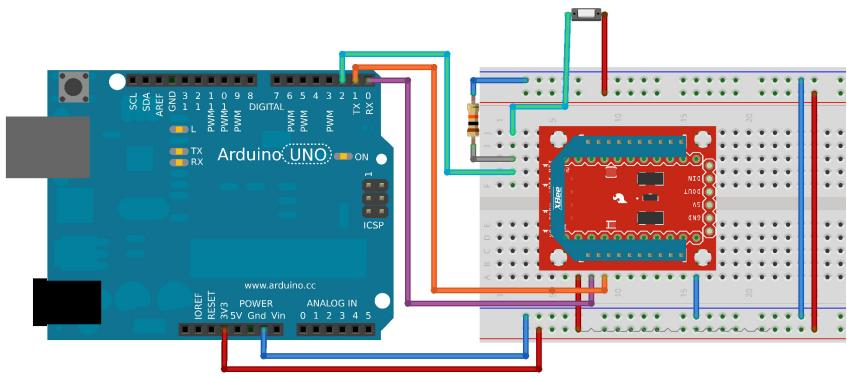
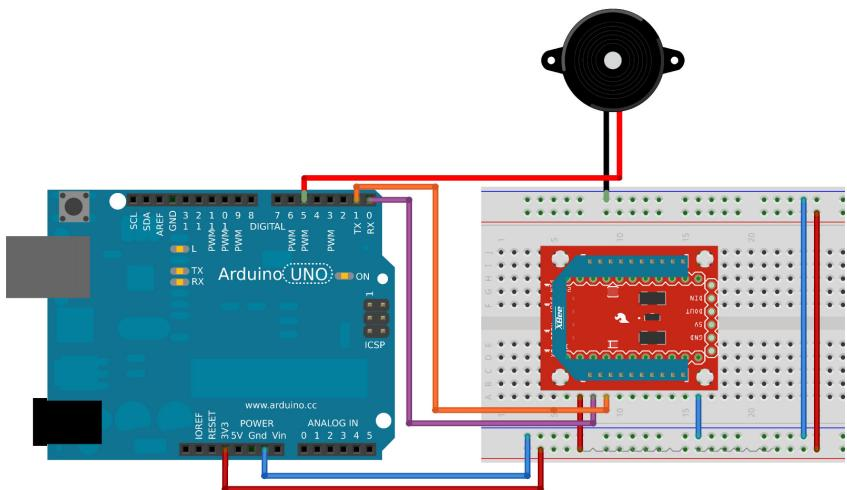

Figure 8.1: Wireless doorbell: switch layout
Figure 8.2: Wireless doorbell: buzzer layout
On the switch side, we will be prototyping a layout like the one shown in Figure 8.1. While the sound will be produced by a buzzer on the other radio, like in Figure 8.2.
Follow these guidelines to prepare the connections for the switch that will make the doorbell ring (or buzz in our case). If lost, you can always take a look at the final layout in Figure 8.1.
6. Grab another color cable to connect pin TX/DOUT of the XBee to digital pin 0 (RX) on the Arduino.
7. Then do the reverse way communication by connecting XBee's RX/DIN pin to the digital pin 1 (TX) on your Arduino.
8. With the coordinator XBee, attach the button to the digital input 2 of your Arduino, making sure to use the $10K\Omega$ resistor as in Figure 8.1.
The other XBee (as a router) will work as the buzzer. For this, replicate the schematics shown in Figure 8.2.